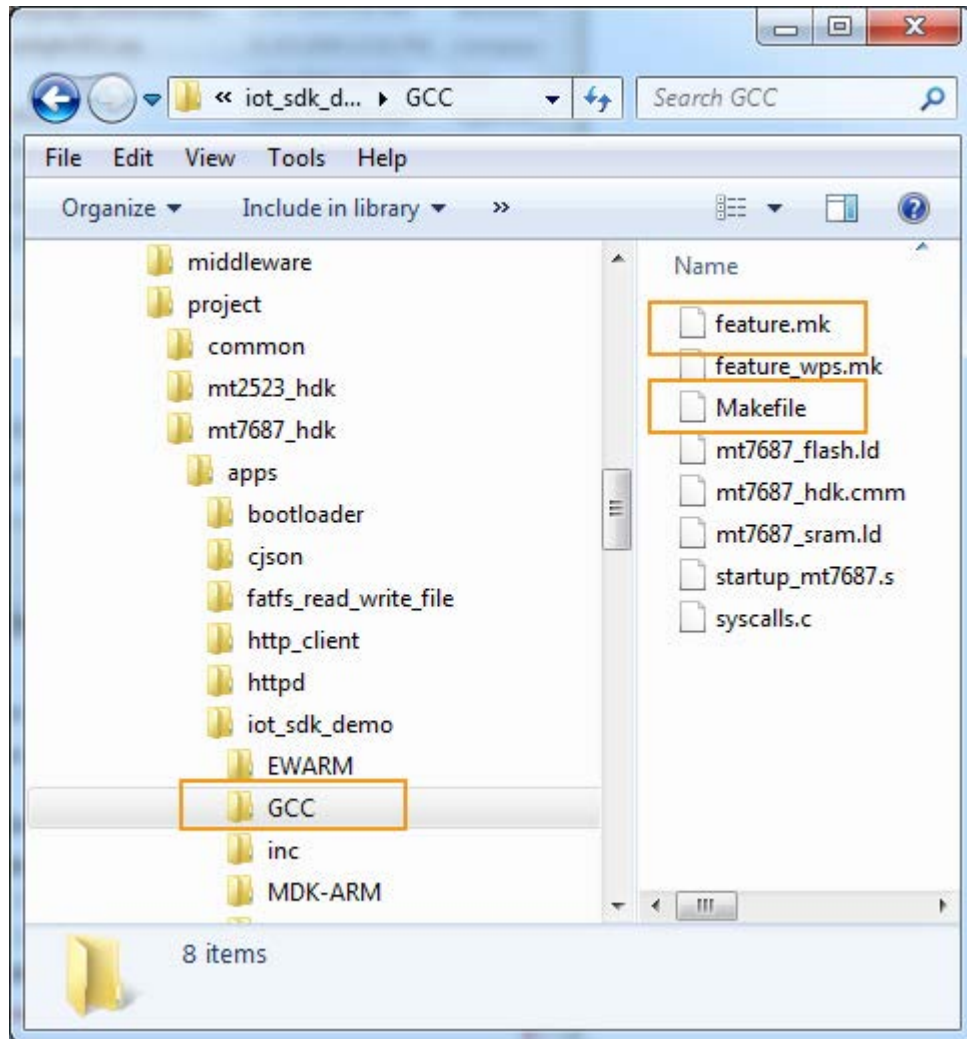

Figure 14. The location of the project's feature configuration file and makefile
The project makefile is mainly used to generate the project image. It is placed under the `<sdk_root>/project/<board>/apps/iot_sdk_demo/GCC/` folder, named as `Makefile` (see Figure 14). The purpose of the project makefile is summarized below:
- 1) Feature configuration file (`feature.mk`) is placed at `<sdk_root>/project/<board>/apps/iot_sdk/GCC/feature.mk` (see Figure 14). Users can turn on or turn off a specific feature by simply changing the value of the feature option defined in the `feature.mk`.